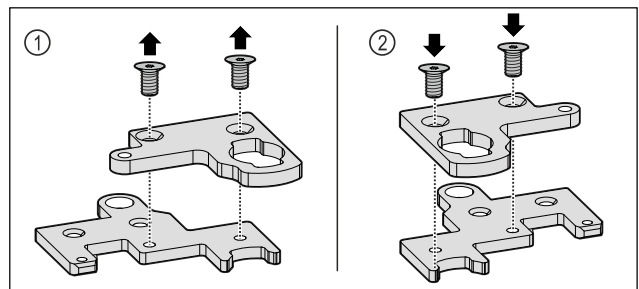

Fig. 27
- Disassemble the two-part hinge angle bracket. Fig. 27 (1)
- Turn the two-part hinge angle bracket 180° (180°) and then reassemble it. Fig. 27 (2)